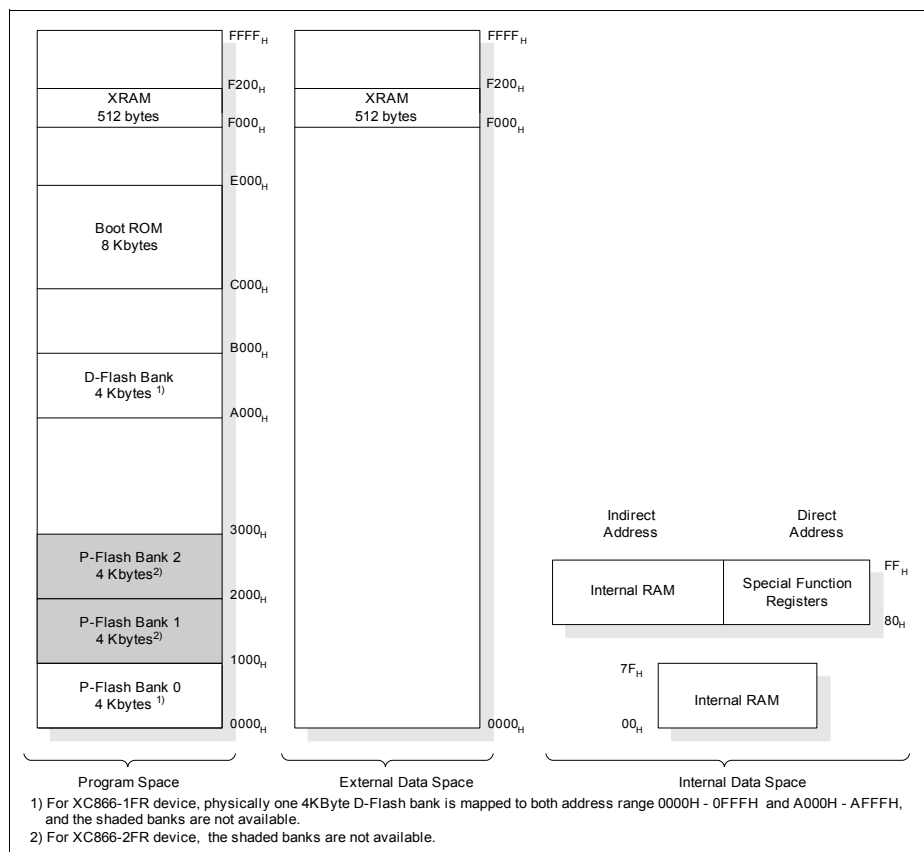

**Figure 6 Memory Map of XC866 Flash Devices**
**Figure 6** illustrates the memory address spaces of the XC866-4FR device.